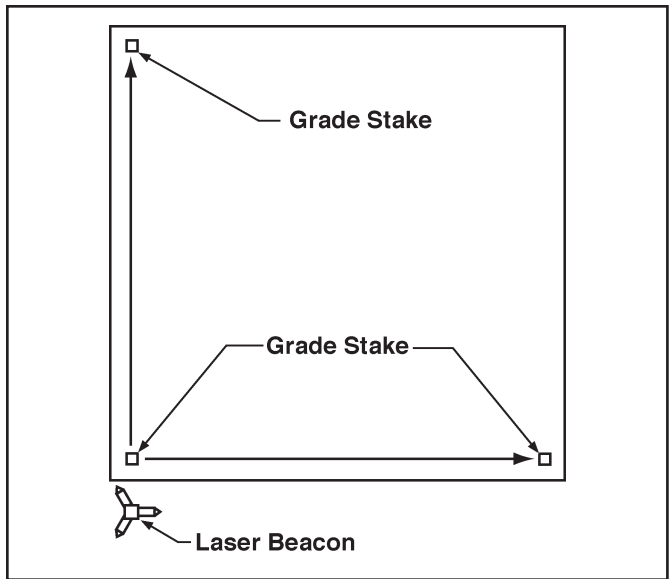

Figure 8. Method Two: Align Rotating Laser with Grade Stakes
2. Place the Rotating Laser a few feet (meters) behind the first grade stake and in line with one of the far grade stakes (it is not critical to align the Rotating Laser exactly). (Refer to Figure 8.)